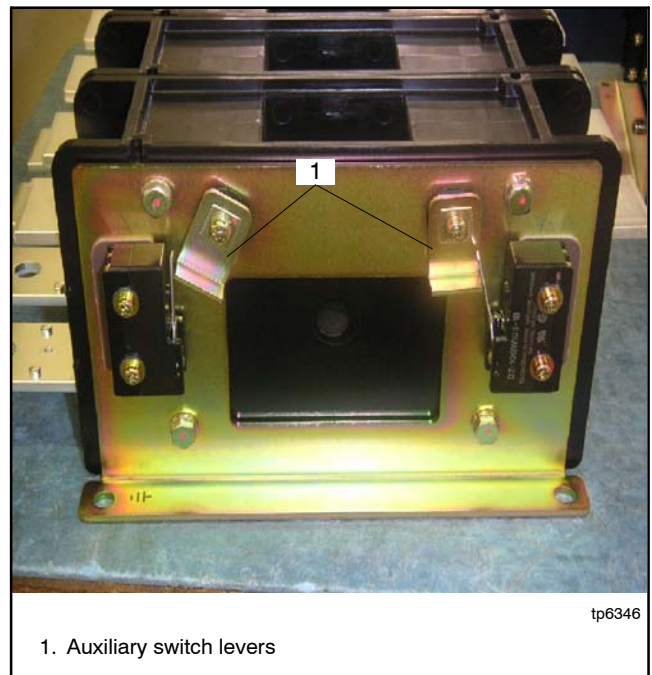

Figure 7-24 Auxiliary switch levers
3. Replace the auxiliary switch levers. See Figure 7-24.